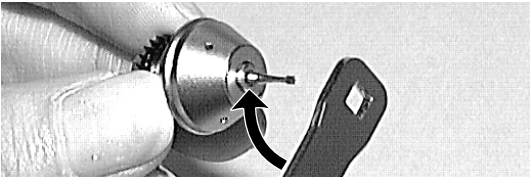

Fig.20
- (7) Finally insert the rotor shaft nut along the test bur, and firmly tighten it with a wrench while holding the rotor. (Fig. 20)